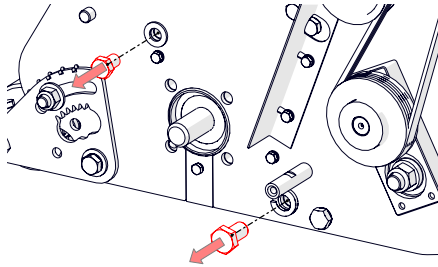
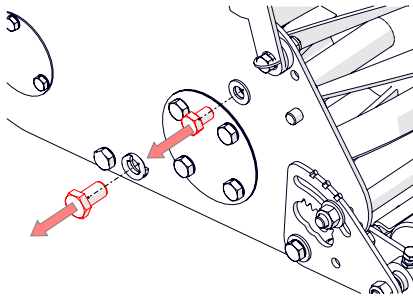
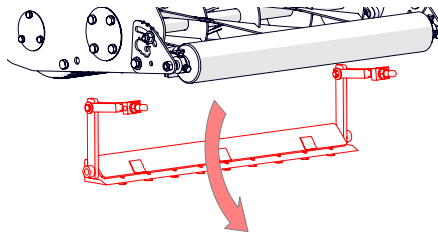

Fig. 18E - Remove LH shear blade hex screws.
Fig. 18F - Remove RH shear blade hex screws.
Fig. 18G - Remove shear blade from the machine.
8. Remove the top and bottom hex screws [3/4" spanner and 5/16" spanner] from each side securing the shear blade carrier (Fig. 18E & Fig. 18F). Support the shear blade carrier as it is lowered from the machine (Fig. 18G).